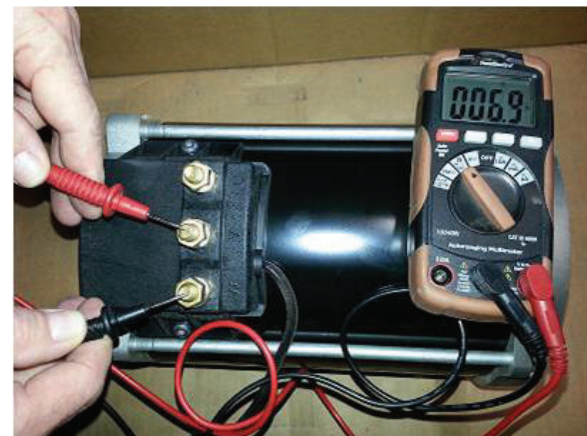

Fig. 20 V and W terminal
2. Now place one meter probe on the V-terminal and the other probe on the W-terminal. Full continuity should be observed (Ref Fig. 20).